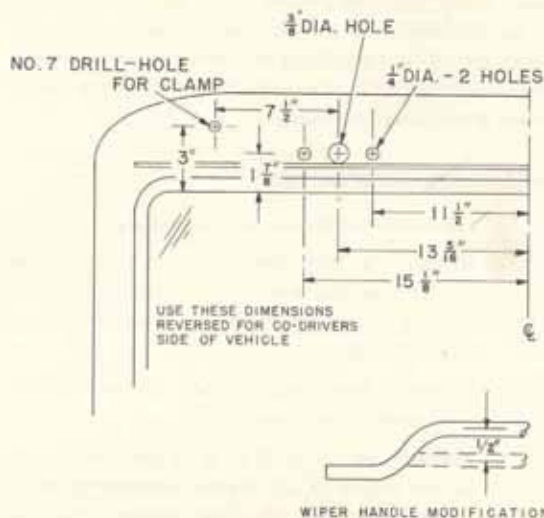

Figure 5
1. To prevent interference with the defroster assembly, it is necessary to relocate the windshield wipers at the top of the windshield. Remove the wiper motors, lines and fittings from below the windshield and drill new holes at the top of the windshield as shown in Figure 5.
2. Reshape the manual operation handles of the wipers as shown in Figure 5 to provide additional clearance from the windshield and install the wiper motors, using the original fittings and connecting tubes. Stagger the lower tube two inches to the left. Cut a hole in the canvas top for the wiper arms.